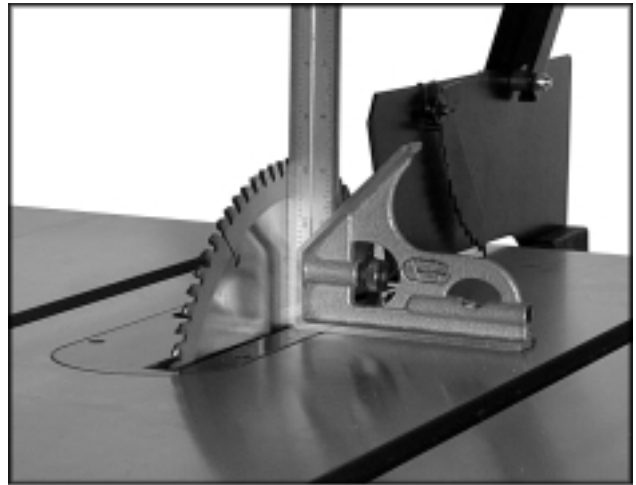

Fig. 12
4. Place a square on the table and check to see that the blade is at a 90° to the table, (Figure 12). Make sure square is not touching a blade tooth.